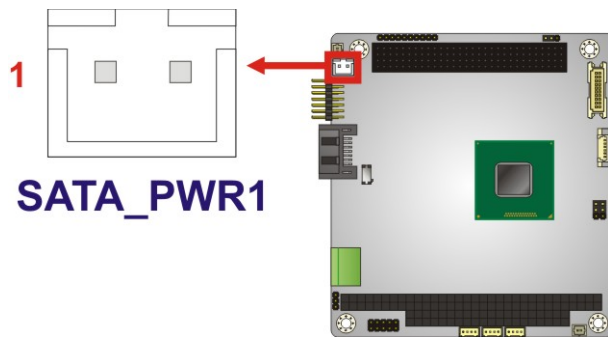

Figure 3-20: SATA Power Connector Location
- CN Location:** See **Figure 3-20**